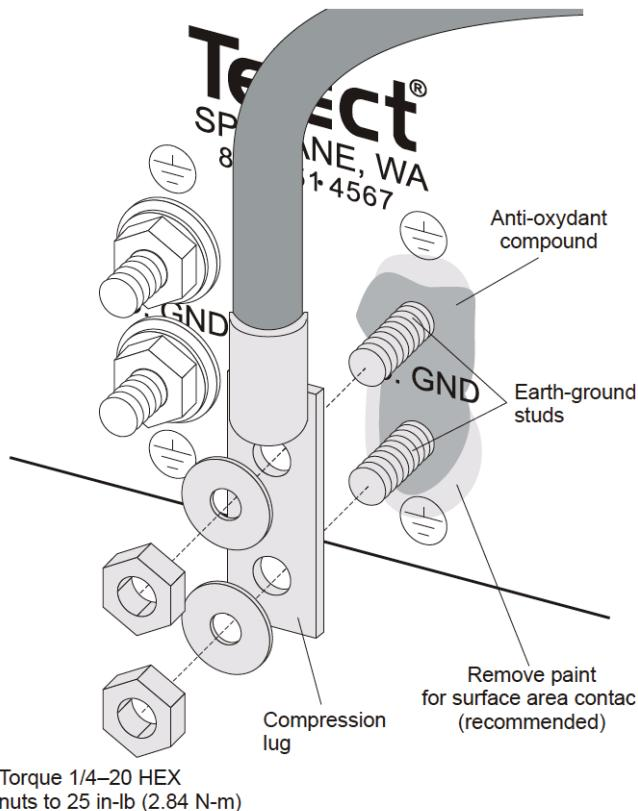

Figure 4 - Ground to Chassis
8. Connect using $\frac{1}{4}$ - 20 hex nuts and flat washers provided, as shown in Figure 4.